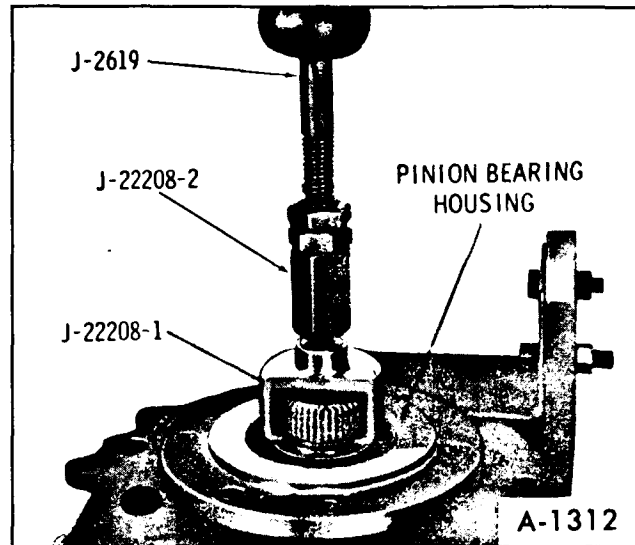

Figure 24—Removing Pinion And Bearing Housing
2. Remove the bearing housing bolts. Remove the drive pinion and housing as shown in Figure 24. Remove housing from drive pinion. Remove "O" ring seal from O.D. of bearing housing.
11. Remove the bearing housing bolts. Remove the drive pinion and housing as shown in Figure 24. Remove housing from drive pinion. Remove "O" ring seal from bearing housing.